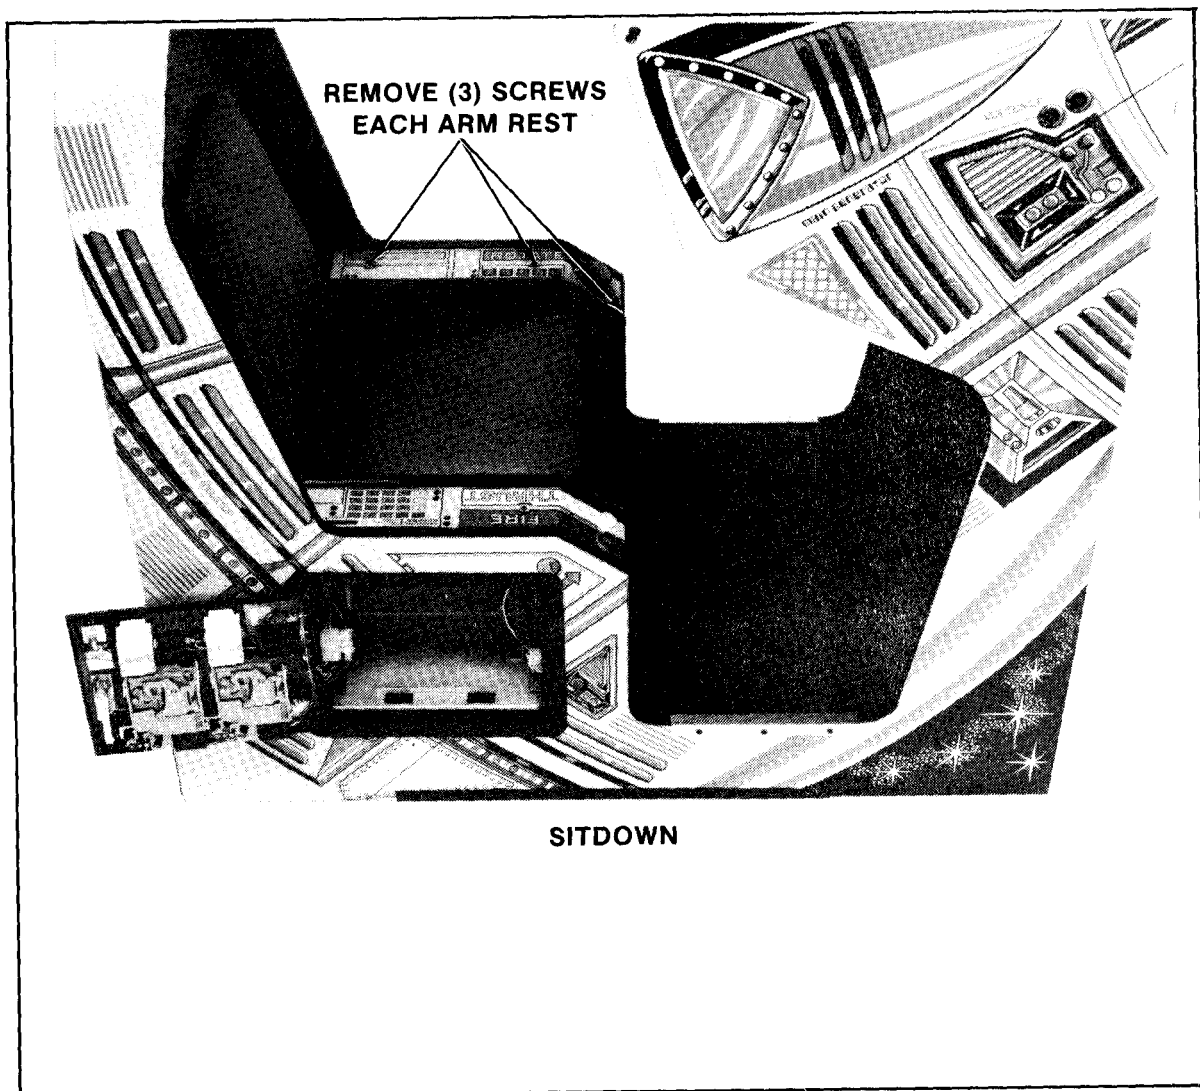

FIGURE 20
- c. To remove **either** arm rest control panel: (See Figure 20.)